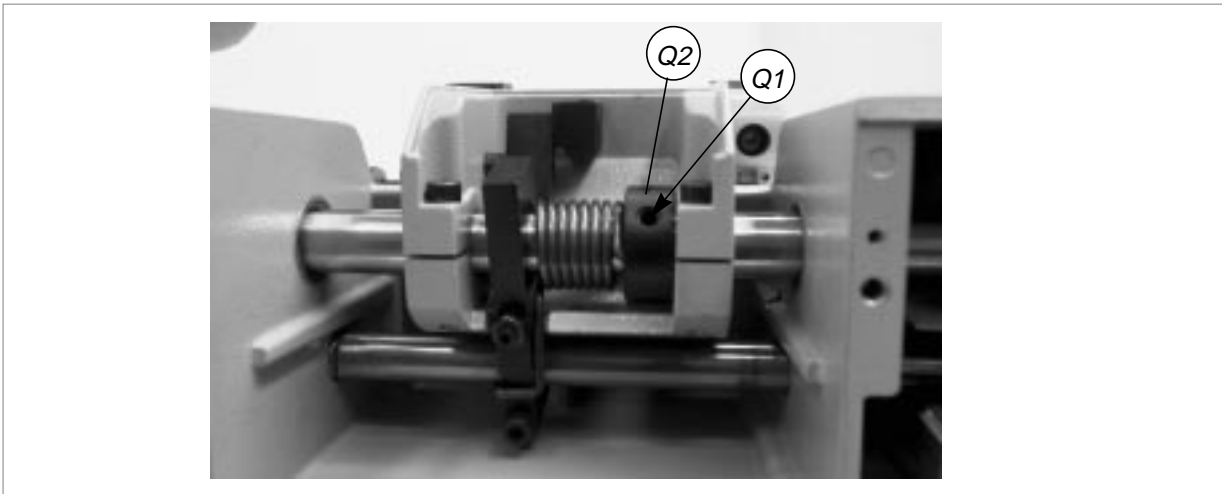

Fig. 40
- 12) Loosen the grub screw (Q1) on the spring ring nut (Q2) (fig. 40, page 28).